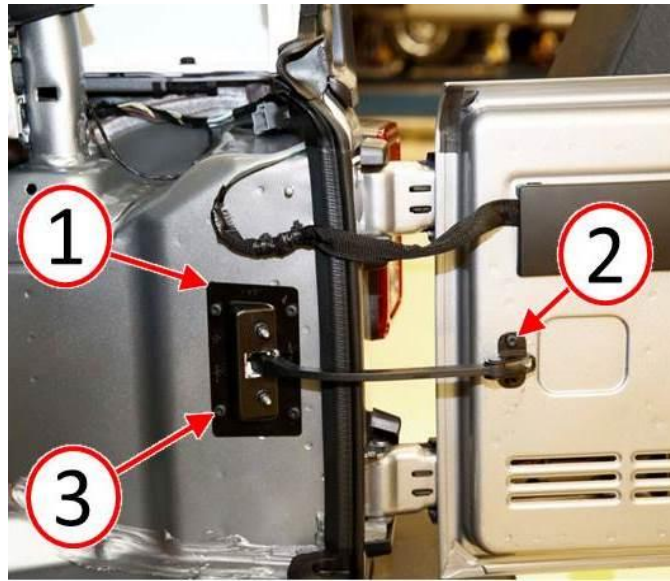

***Fig. 5 Right Rear Quarter Trim Panel***
- 7. Remove the right rear quarter trim panel (3). One fastener is located behind the trim bezel (1) and two fasteners are under the cargo floor covering at location (2) (Fig. 5). Refer to the detailed repair procedures available in: DealerConnect> TechCONNECT under: Service Info> 08 - Electrical> 8A - Audio/Video/Entertainment/Connectivity> SPEAKER> Removal> SUBWOOFER. Quarter trim panel without subwoofer requires a similar removal process but without speaker electrical connector.
10. Install the right rear quarter trim panel (Fig. 5). Refer to the detailed repair procedures available in: DealerConnect> TechCONNECT under: Service Info> 08 - Electrical> 8A - Audio/Video/Entertainment/Connectivity> SPEAKER> Installation> SUBWOOFER. Quarter trim panel without subwoofer requires a similar installation process but without speaker electrical connector.